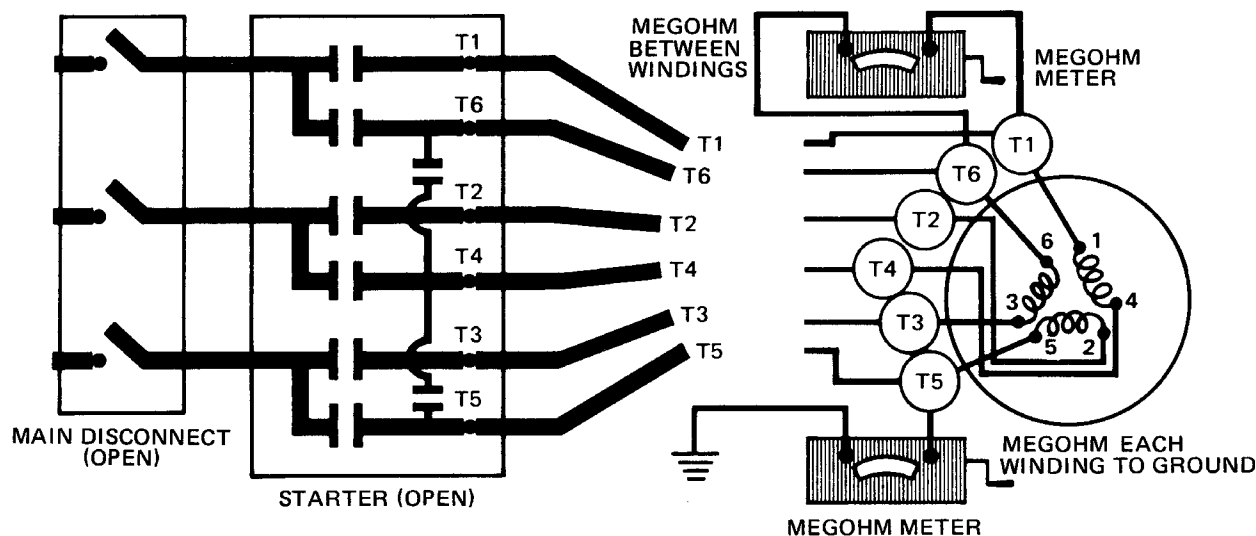

FIG. 23 – DIAGRAM, MEGOHM MOTOR WINDINGS
1. Use a megohm meter to verify the minimum motor and wiring insulation resistance. Megohm between phases and each phase to ground, Refer to Figure 23, Diagram, Megohm Motor Windings.